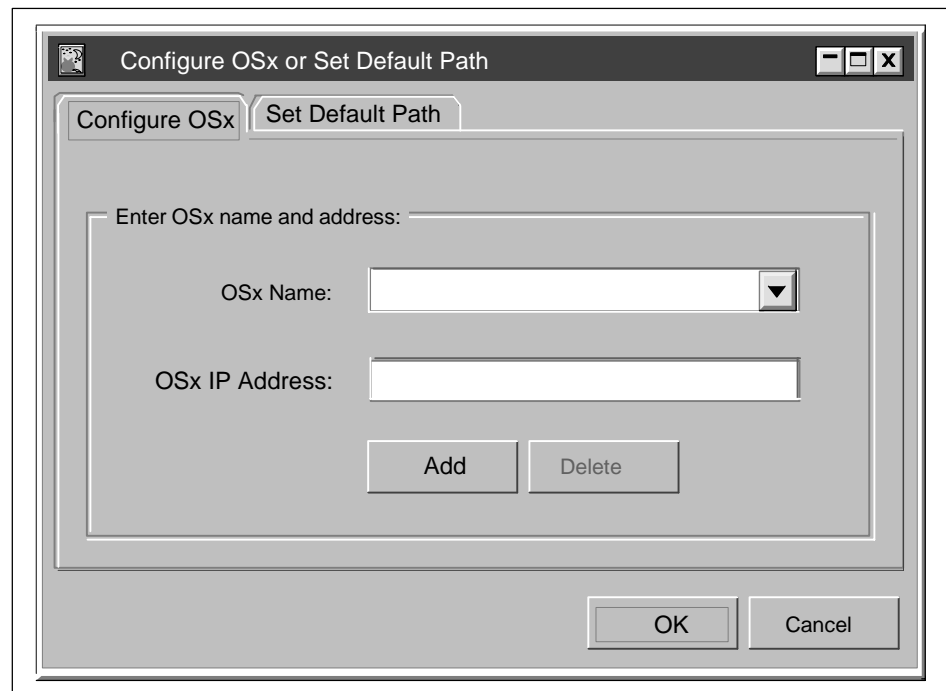

Figure 2-22 Configure OSx Dialog Box
1. Click **Configure** on the Transfer dialog box. The Configure dialog box appears (Figure 2-22).